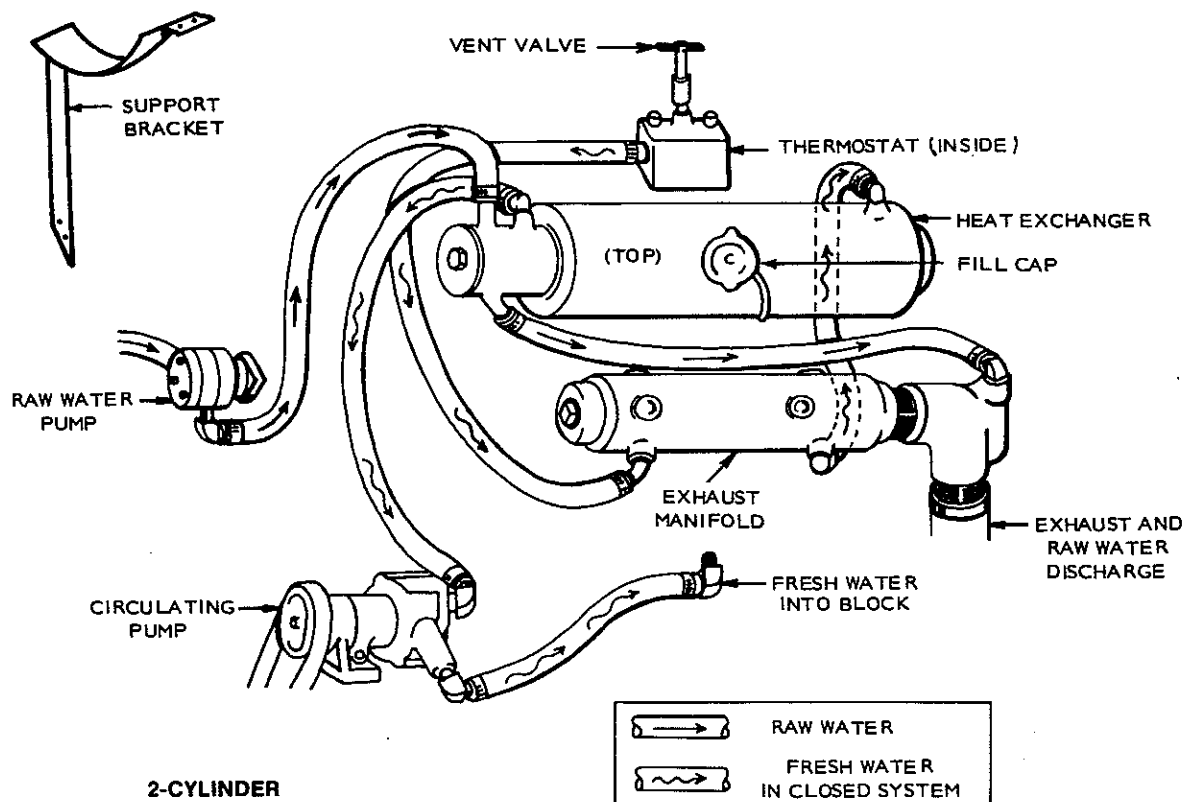

FIGURE 6-39. HEAT EXCHANGER HOSE SCHEMATIC
- Elbow hose fitting at centrifugal pump outlet (side of pump); elbow hose fitting in cylinder block inlet; face all elbows as illustrated in Figure 6-39